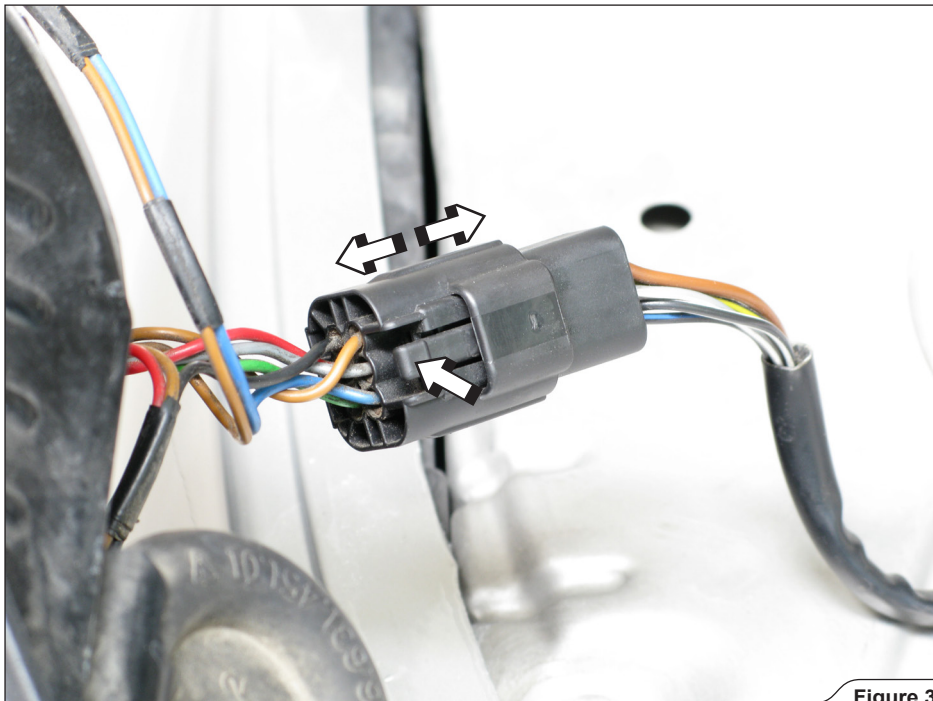

Figure 3
3. **For Slip-On and Evolution:** disconnect the lights connectors and remove the tail lights (**Figure 3**).